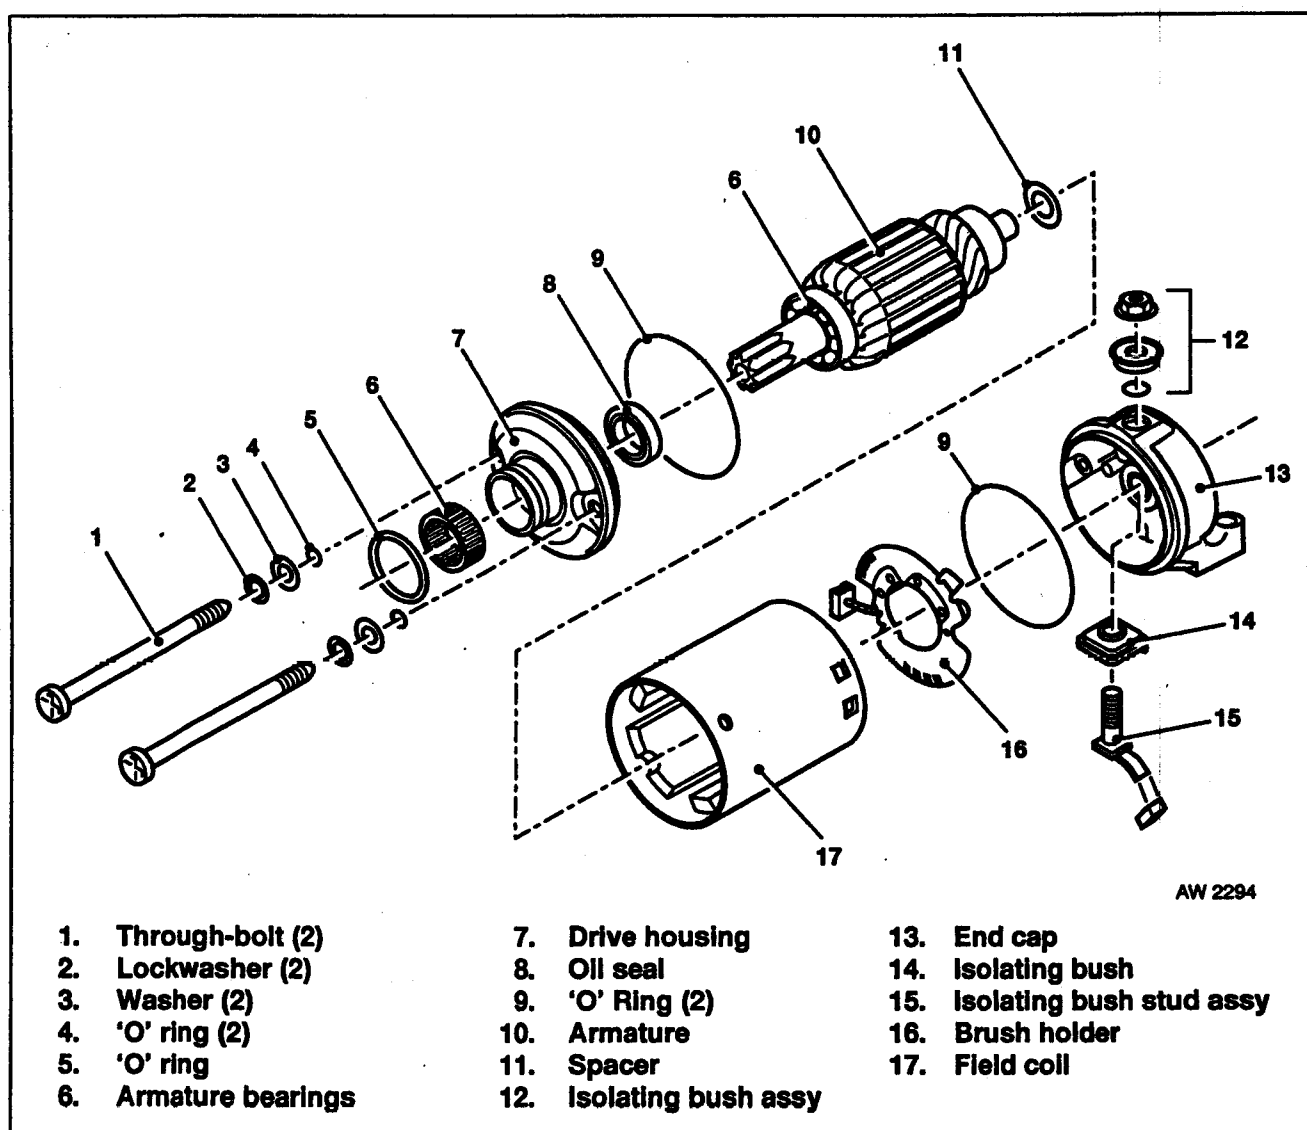

Fig 7.6 Electric Starter
(2) Fig 7.6 refers. Disassemble by unscrewing the two through bolts (1).
(3) If the brushes are severely worn, a new brush assembly (16) should be installed.
(4) Clean the surface of the armature (10) segments, and the area between the segments, of loose dust which can cause arcing and poor motor performance.
(5) Check that the rotor runs smoothly in the bearings (6). Be sure all 'O' rings (9) are intact and lightly greased and that the arrangement of the isolating bush assembly (12) is correct. The oil seal (8) should be in good condition. When assembling, be sure the brush holder assembly is located correctly.
(6) Installation is the reverse of removal.